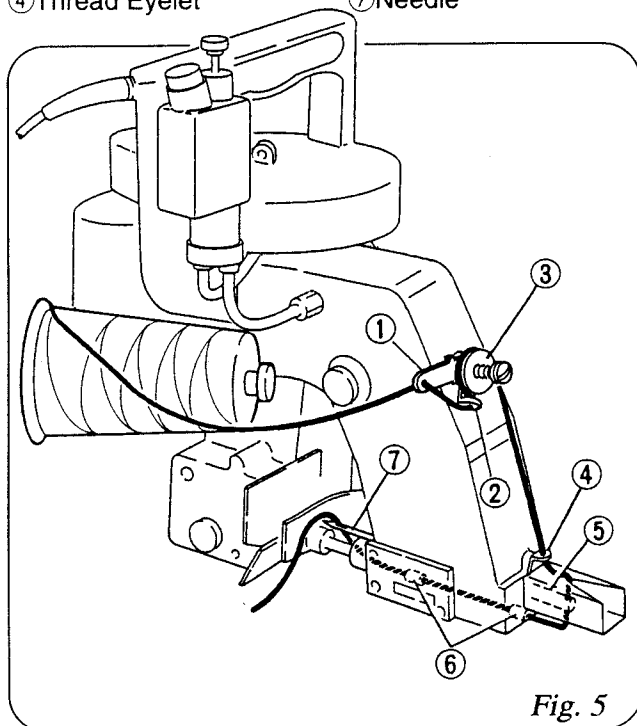

Fig. 5
- Confirm that the machine has been threaded as per Fig.5 in the manual.
### 3. Threading (Fig.5)
The machine is delivered being threaded to show you proper threading of the machine, which is shown in Fig.5, for identification. Follow the guide numbers 1 to 7 of Fig.5.